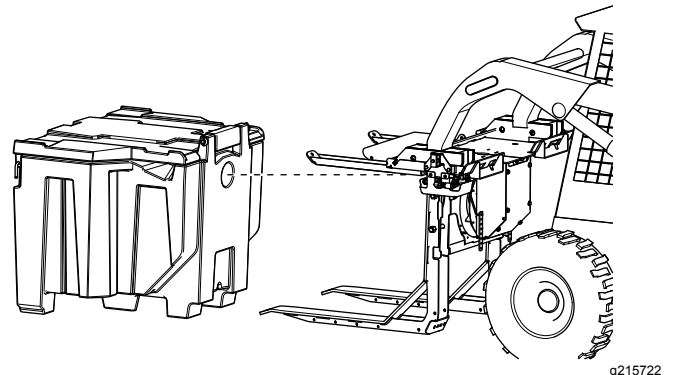

Figure 15
3. Start the skid steer, and tilt the spreader frame forward until the forks are parallel to the ground (Figure 15).
4. Drive the skid steer forward and insert the frame forks into the channels on the cube until the cube is flush against the frame (Figure 15).